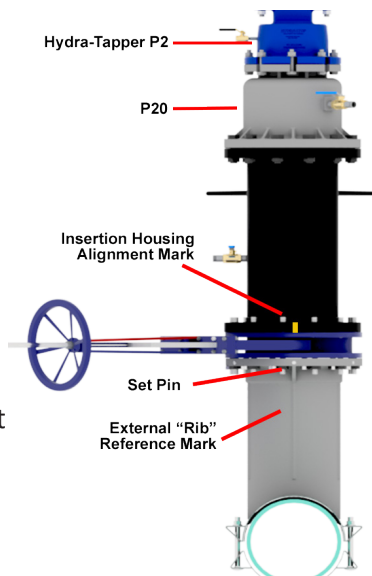

FIGURE 55
3.0.18) Make a reference mark on the insertion housing aligned with the centerline of the Alignment Gauge (see Figure 55).
(See Figure 55)